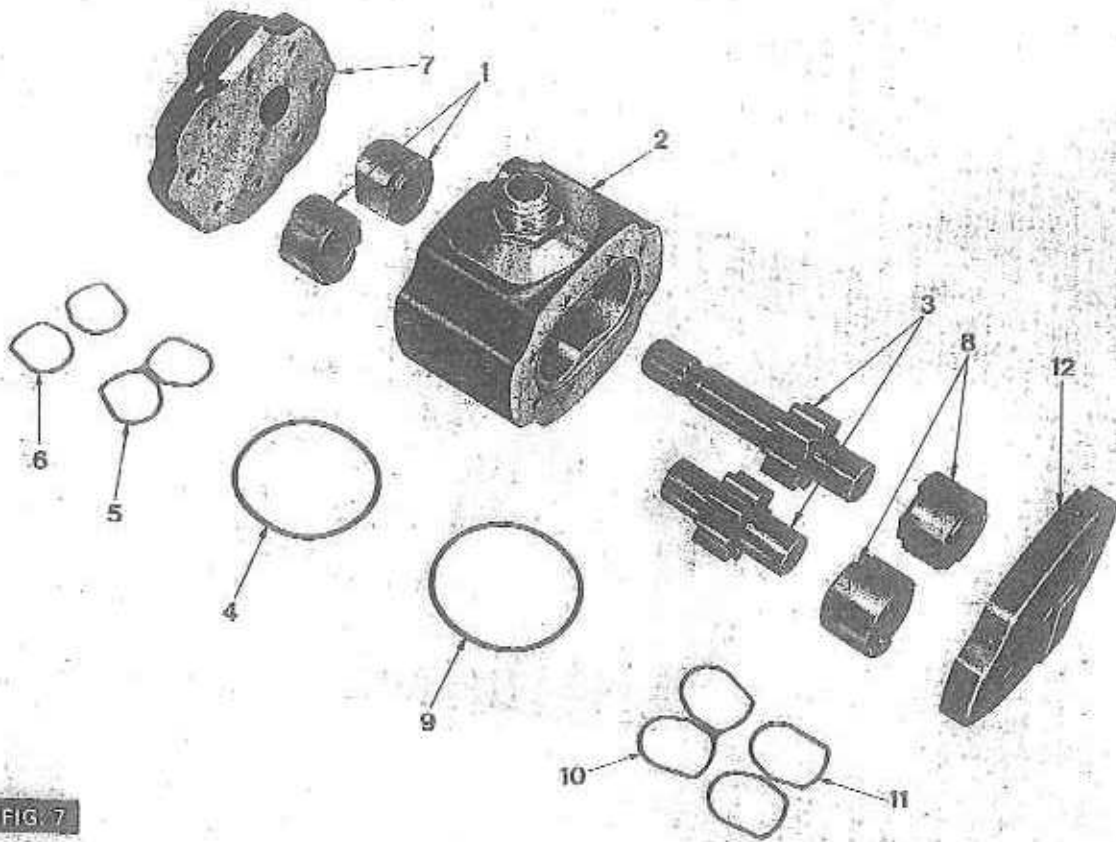

FIG 7
3. (Fig. 7). Fit the first pair of bearing blocks (1) into the pump body (2).